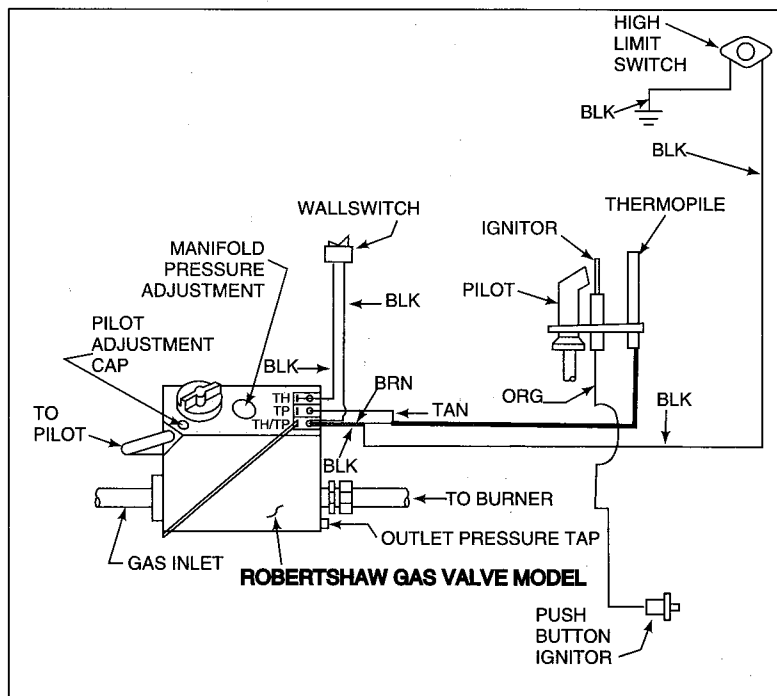

Figure 17
1. Remote Wall Switch. Position the junction box (not provided) in the desired place on the wall. Wiring located for the wall switch will be found protruding from the left side of the fireplace. Run the wire to the junction box, connect to the provided wall switch and mount the wall switch inside the junction box. A wiring diagram is shown in Figure 17.